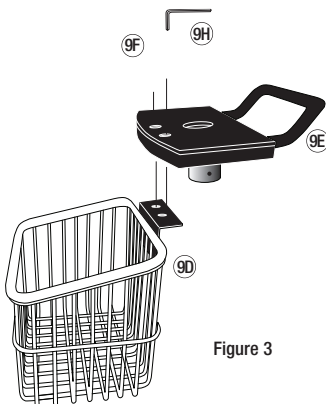

Figure 3
3. Attach metal basket to platform using two 3 mm hex screws. Tighten with small hex key provided. (Figure 3)